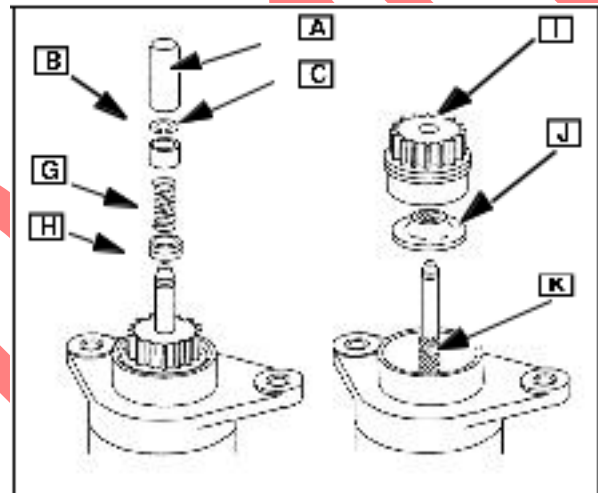

Fig. 39
Push down on upper spring retainer (B) to expose snap ring ([C] Fig. 39) on shaft.
Remove upper spring retainer (B), return spring (G), lower retainer (H), pinion gear (I), and starter clutch ([J] Fig. 39).
Correct any sticking between pinion gear and starter shaft helix ([K] Fig. 39).
Refer to Fig. 39
Pull up on upper spring retainer (B) until retaining ring snaps into groove in upper spring retainer, Fig. 39.